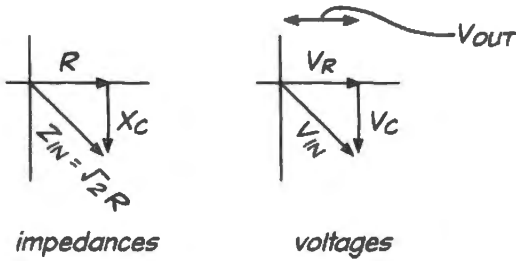

Figure 2N.39 Phasor diagram explains geometrically the RC 's 45° phase shift at f_{3dB} .
- if $-j(1/\omega RC)$ has value unity, which means $\omega = 1/RC$, then we're at f_{3dB} and $V_{out}/V_{in} = \frac{1}{1-j}$. This has magnitude $\frac{1}{\sqrt{2}}$, more usually described as “-3dB.”¹³ The presence of j in the expression promises phase shift. A phasor diagram like the one back in Fig. 2N.31 may be the best way to illustrate why that phase shift is 45° . The phase shift is the angle between the hypotenuse (V_{in}) and the voltage across R . The latter voltage “leads” V_{in} by 45° . Fig. 2N.39 shows a short form of that figure again.